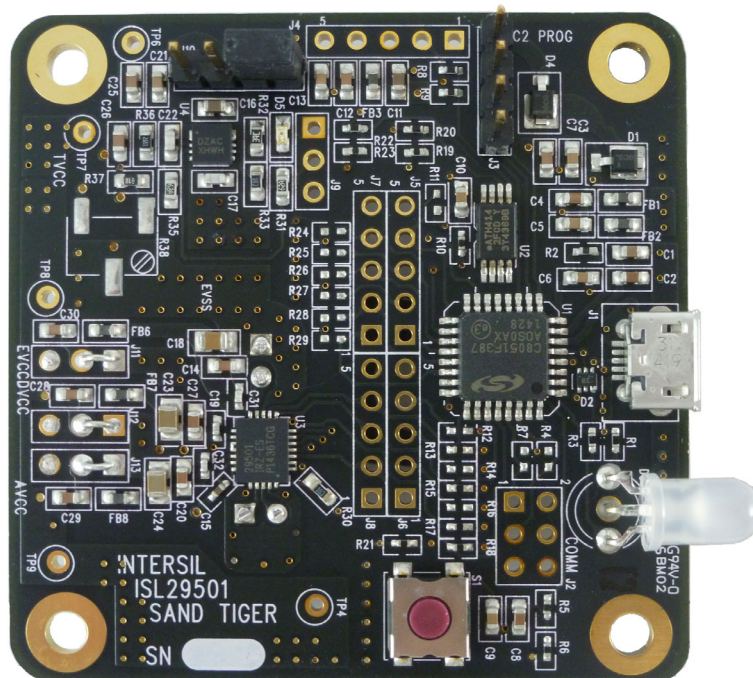
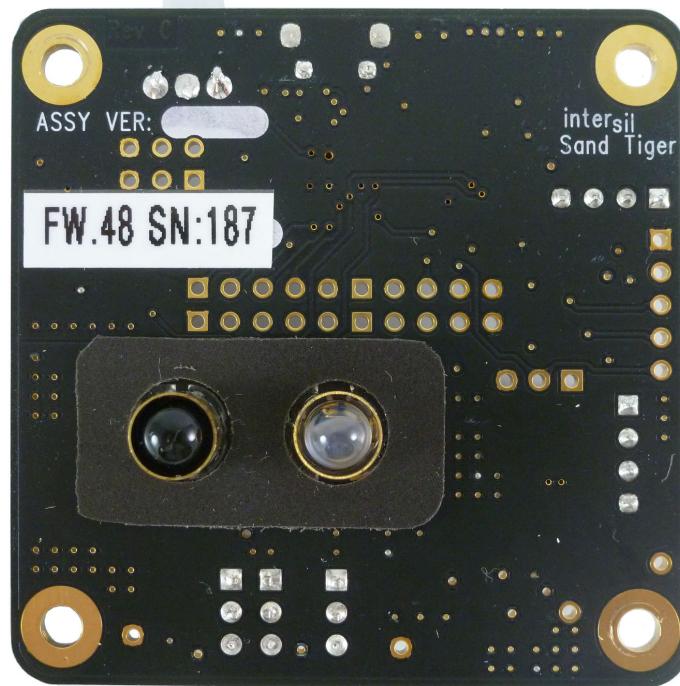

Figure 4. Sand Tiger Board (Top Side)
Figure 5. Sand Tiger Board (Bottom Side)^[1]
The ISL29501-ST-EV1Z evaluation board is shown in Figure 4 and Figure 5. The hardware enable function is controlled by a software switch, which can be overridden shorting J9 pins 1 and 2. See the schematic for details. A Power-Good (PG) LED indicates that the LDO is regulating properly.